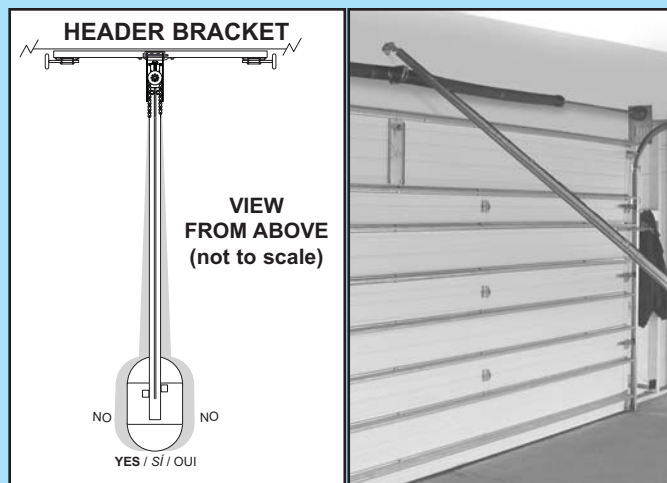

FIG. 2-4 Position assembly and align.
- Position assembled rail on wall next to header bracket. (Fig. 2-4).
**NOTE:** Before final attachment to ceiling, insure that assembly is in proper alignment (Fig. 2-4).